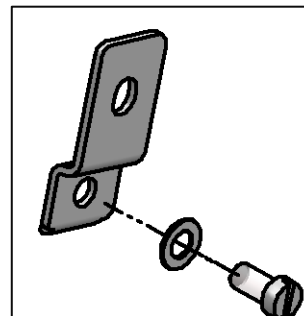

Fig. 5-2 Wall mounting set
- Mount the electric stunner with our wall mounting set\* (Fig. 5-2) at a height of at least 1.6 m.